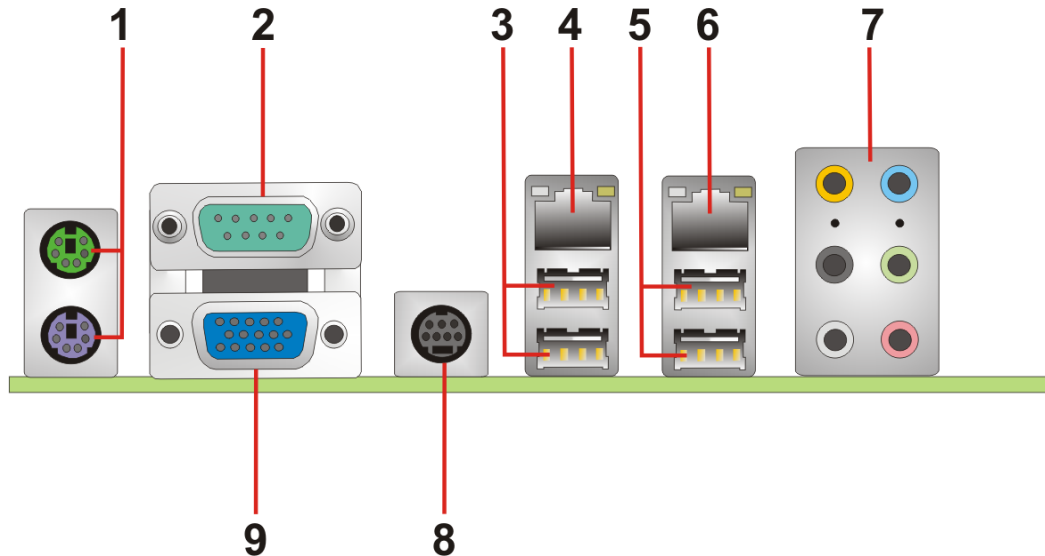

Figure 3-16: KINO-9452 External Interface Connectors
CN Location:	See Figure 3-16 (labeled number 7)
- CN Location: See Figure 3-16 (labeled number 9)
CN Location: See Figure 3-16 (labeled number 4 and 6)
- CN Location: See Figure 3-16 (labeled number 1)
CN Location: See Figure 3-16 (labeled number 2)
CN Location:	See Figure 3-16 (labeled number 8)